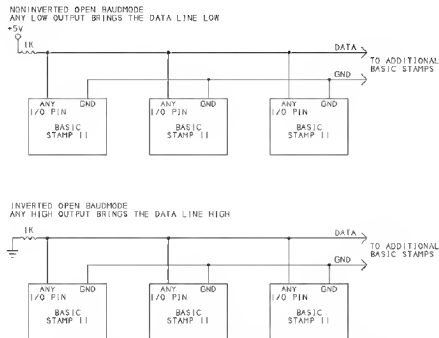

Figure 5-8: The Stamp II's open baudmode allows easy networking for short links.
**Open baudmode** provides a simpler and safer way to do this. Instead of switching between active high and active low, the open baudmode outputs switch between open and a driven state. A pullup or pulldown resistor determines the state of the line when all outputs that connect to the line are open, and whether the line uses inverted or noninverted data. Figure 5-8 illustrates.